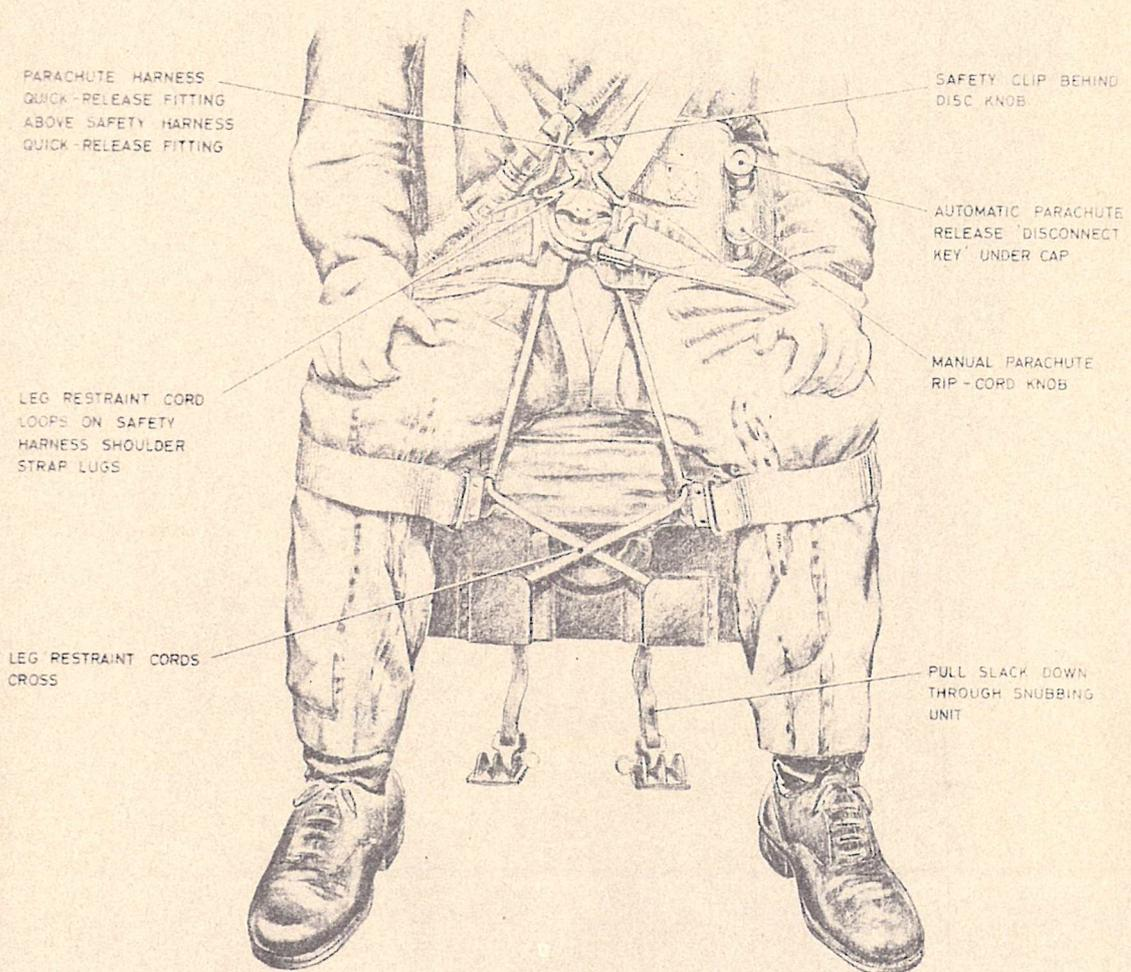

Fig. 3 Arrangement of harness and leg restraint cords
19. The procedure is as follows; refer to fig. 3, 4 and 5 for detail as necessary: -